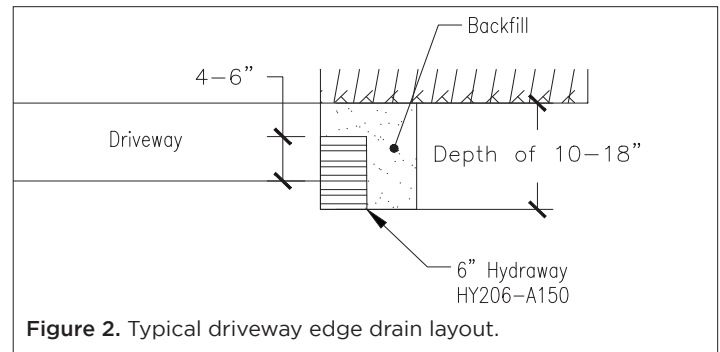

Figure 2. Typical driveway edge drain layout.
- For pavement edges such as driveways or parking lots, 6- or 12-inch Hydraway is installed to a depth so that the top of Hydraway is 4 to 6 inches above the invert of the bottom of the concrete (See Figure 2).